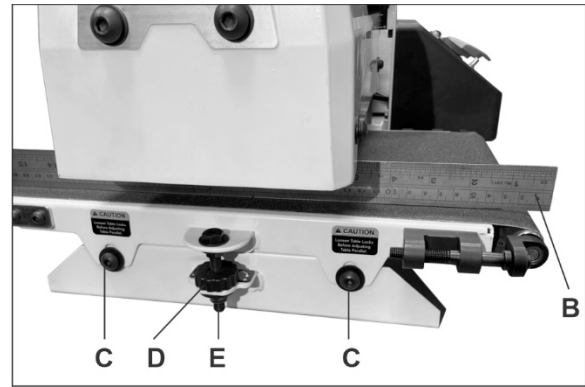

Figure 7-3: Drum Alignment
3. Position gauge (B, Figure 7-3) between drum and conveyor table at *outboard* side of drum.
1. Loosen both table locking screws (C, Figure 7-3) with 5mm hex wrench.
2. To *raise* outboard end of table, loosen lock nut (E, Figure 7-3) and rotate knurled nut (D, Figure 7-3) clockwise.
3. To *lower* outboard end of table, rotate knurled nut (D) counterclockwise, and tighten lock nut (E).
5. Retighten table lock screws (C).